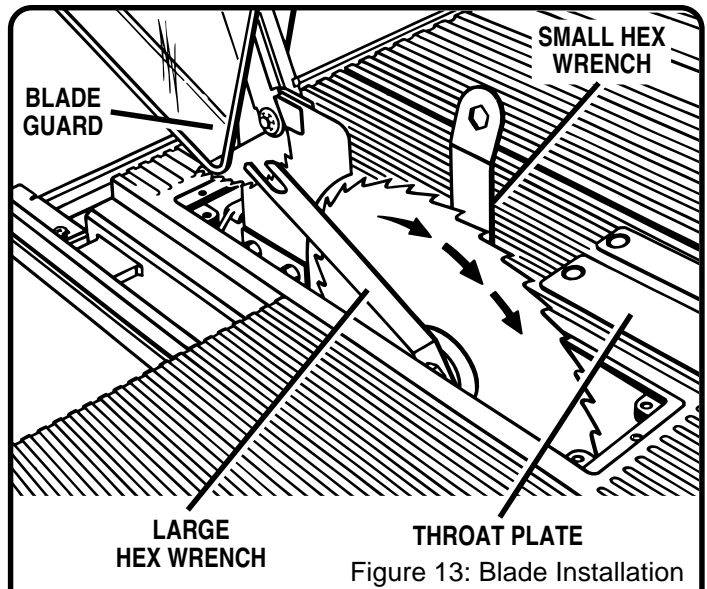

Figure 13: Blade Installation
1. To check the saw blade, first remove the three screws holding the throat plate in place. Remove the throat plate. See Figure 13.